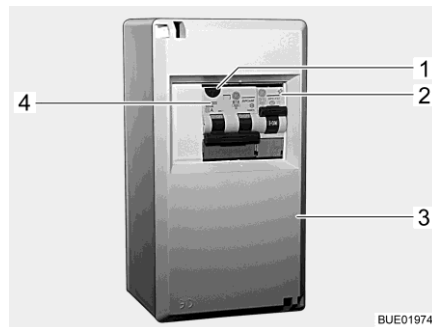
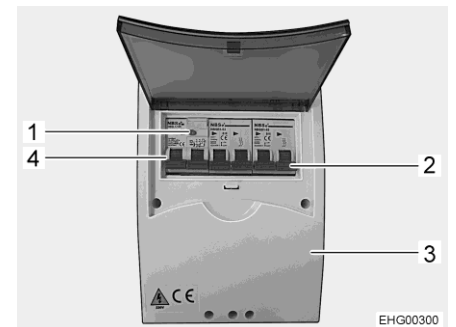

Fig. 192 230 V fuse box
Fig. 193 230 V fuse box (variant)
- Switch off the safety cut-outs (Fig. 192,2, Fig. 192,4 or Fig. 193,2, Fig. 193,4) in the fuse box (Fig. 192,3 or Fig. 193,3).
- When the vehicle is connected to the 230 V supply, press the test button (Fig. 192,1 or Fig. 193,1) of the combined fault current protection switch /safety cut-out (Fig. 192,4 or Fig. 193,4) in the fuse box (Fig. 192,3 or Fig. 193,3). The fault current protection switch must trip.